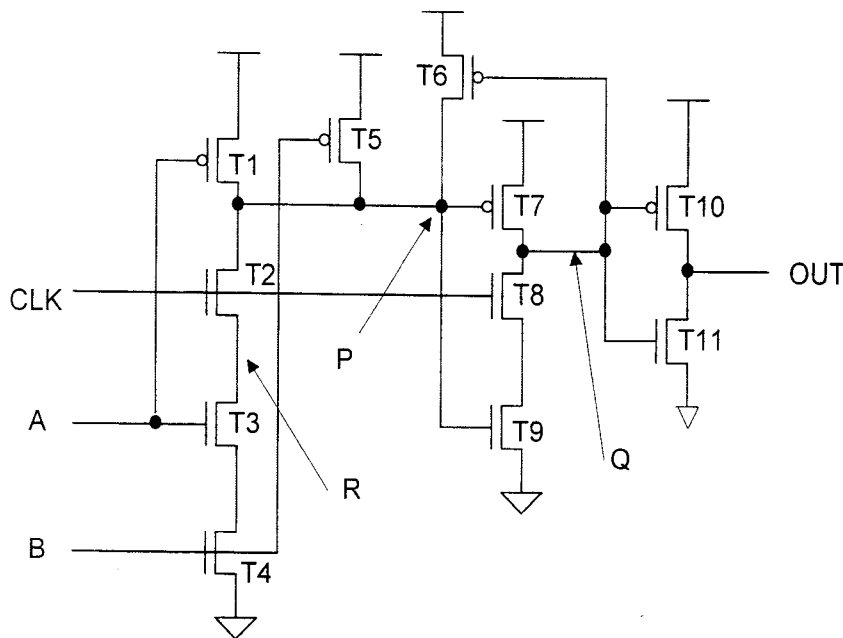
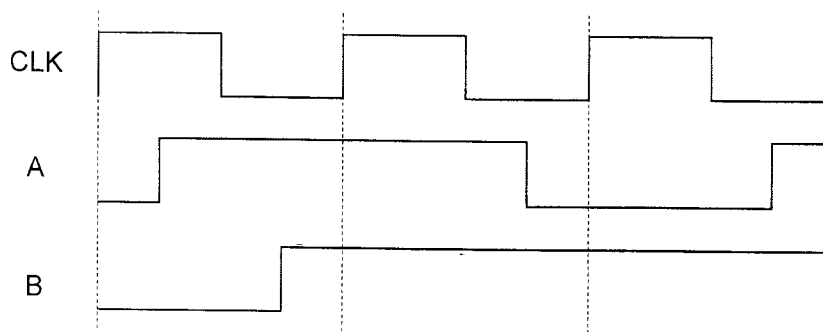

Figure 3.1
Figure 3.2
b) Figure 3.1 shows the transistor level schematic of a standard cell design. It is known that T6 is a minimum sized transistor and all other transistors are appropriately sized. Given that the timing diagram for the input signals CLK, A and B is as shown in Figure 3.2, draw the timing diagram for the signals at P, Q, R and OUT. Label your timing diagram with the following four possible signal states: *driven low (DL)*, *driven high (DH)*, *charged low (CL)*, *charged high (CH)* and *don't know (XX)*.